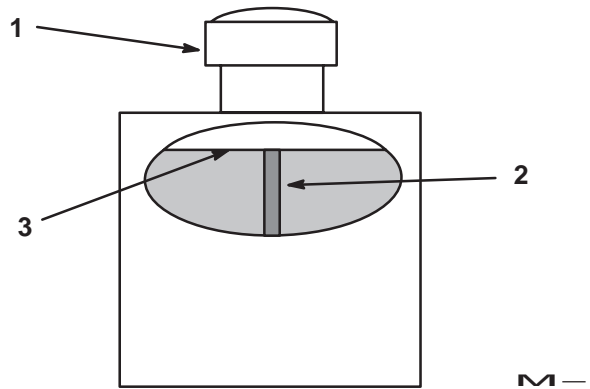

Figure 9
- Clean area around filler neck of hydraulic tank (Fig. 9).
- Remove cap from filler neck. Look inside to check if there is fluid in the reservoir. (Fig. 9).
**Note:** Fluid level should be to the top of the baffle when fluid is warm (Fig. 9).